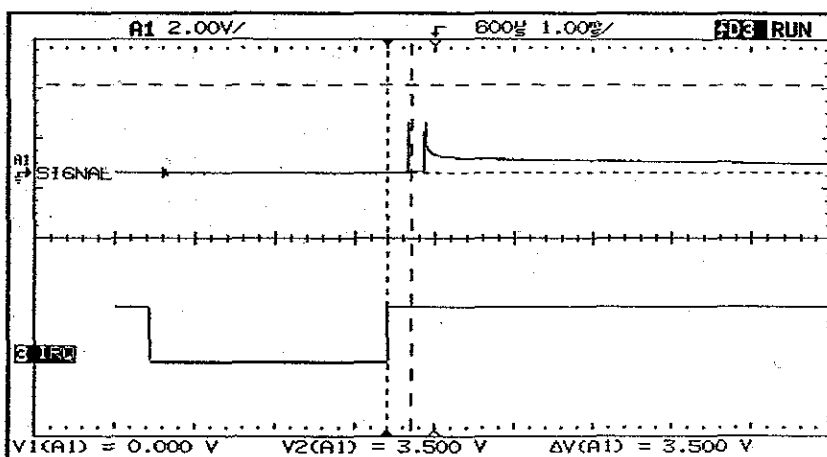

Figure 76
13. Place a disposable canister into the Monitor and close the display assembly onto the container cap. Verify that after $\approx 300\mu\text{s}$ from the rising edge of TP4, there is no $\approx 180\mu\text{s}$ pulse $> 3.5\text{V}$. (see Figure 76)